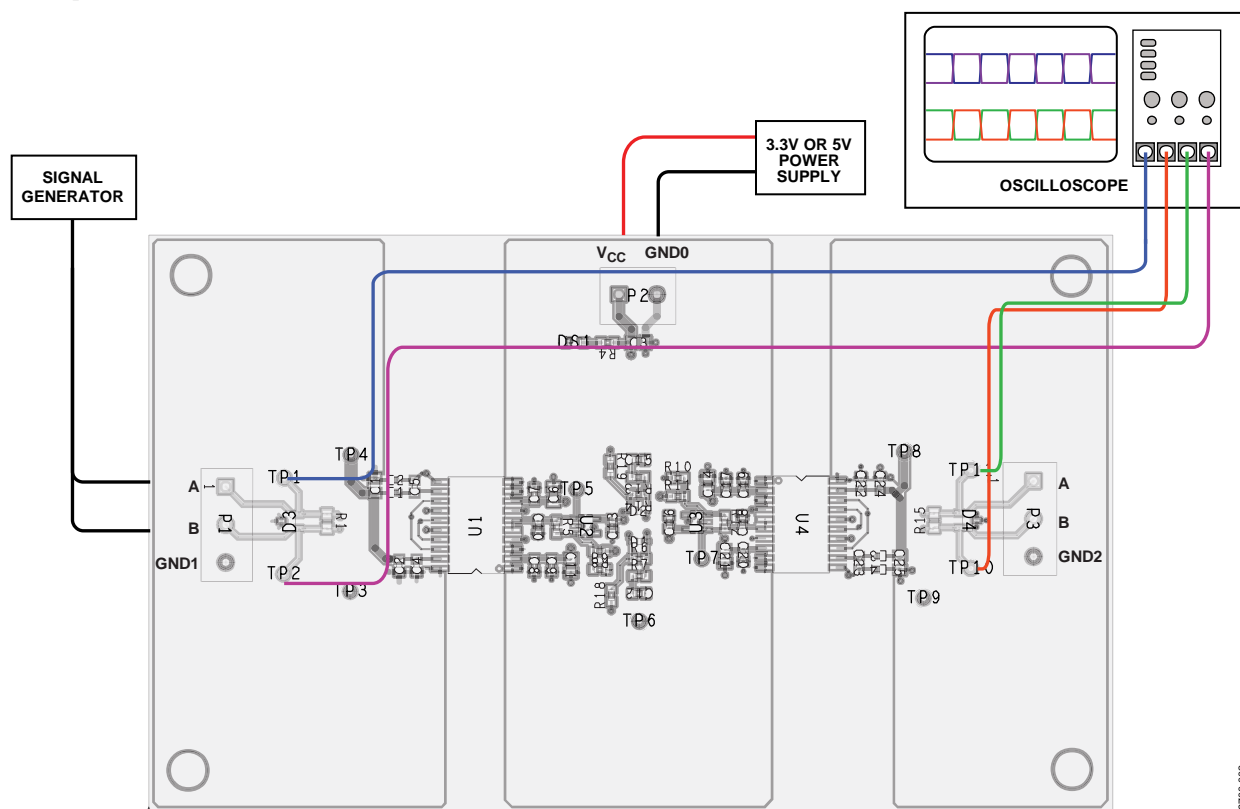

Figure 2. Basic Operation of the EVAL-ADM2587EEB2Z Isolated RS-485 Repeater Evaluation Board
Figure 2 shows the EVAL-ADM2587EEB2Z evaluation board. The evaluation board does not require jumper connections because flow control is implemented with an ADCMP600 high speed comparator circuit. The board is configured as half-duplex and has a $120\ \Omega$ termination resistor fitted on the receiver inputs. Test points are included on the power and signal lines on both sides of the isolation barrier. Power the evaluation board with 3.3 V or 5 V on the P2 terminal block. Confirm basic operation of the evaluation board using a signal generator at the P1 terminal block. Refer to the Cable Connection and Bus Capacitance section for more information. Use an oscilloscope to confirm that the voltage waveforms at TP1 (A) and TP2 (B) match the output of the RS-485 repeater at TP10 (B) and TP11 (A).
Use the EVAL-ADM2587EEB2Z P1 and P3 terminal blocks to attach a Category 5e RS-485 cable to the ADM2587E A and B bus pins. Route the RS-485 cable to other RS-485 evaluation boards to create a multinode setup. Alternatively, use a signal generator to simulate bus differential voltage inputs to P1, as shown in Figure 2. In this configuration, insert a $1.5\ \text{nF}$ wire wound capacitor between the A and B connectors on both the P1 and P3 terminal blocks. This $1.5\ \text{nF}$ capacitor simulates the capacitance from 20 m of Category 5e RS-485 cable.